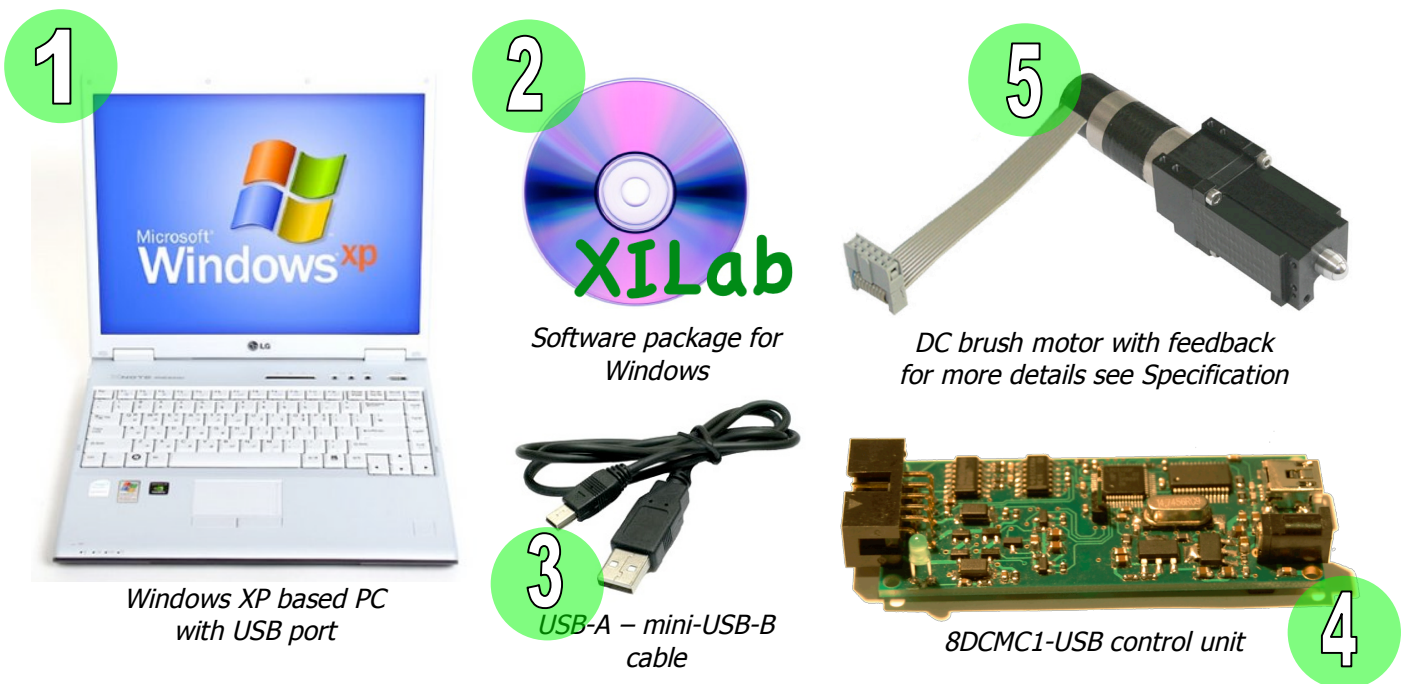

Figure 1. System requirements
4. Depends on delivery set appearance of 8DCMC1-USB control unit can be different. See on Figure 1 illustration 4 8DCMC1-USB control unit without aluminium case.
6. Use 12V stabilized DC power supply (see Figure 1 illustration 6) with 6-12V DC motors always. Use it with 5V DC motors too if USB hub has no enough current. Power supply rated current must be 500-1000 mA. Power supply voltage must never exceed 14V. 8DCMC1-USB control unit can be damaged if higher voltage is applied. Check power supply connector. It must be DJK10D type with 1.3 mm positive central pin as shown on Figure 4.
Connect DC brush motor with feedback to 8DCMC1-USB control unit (see units on Figure 1). Connect 12V stabilized DC power supply to 8DCMC1-USB (optional). Connect 8DCMC1-USB to PC using USB-A – mini-USB-B cable.